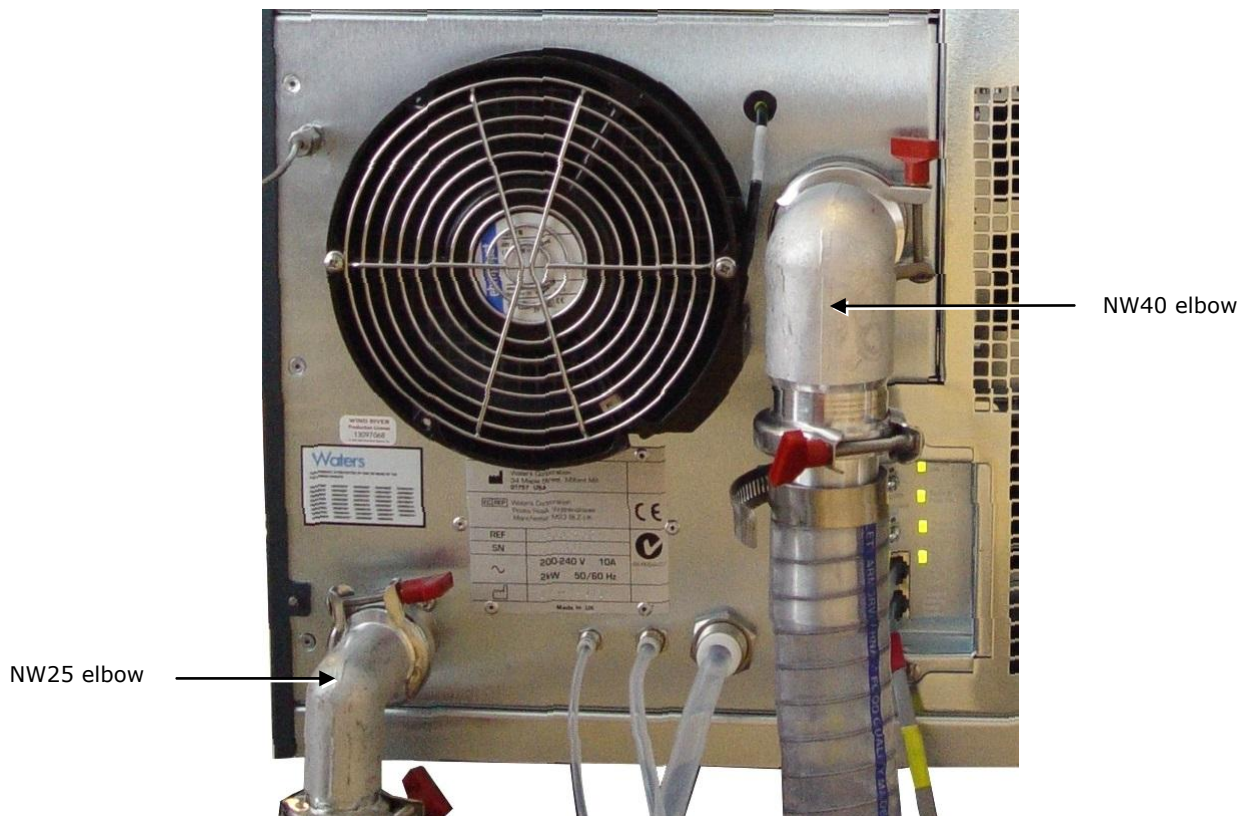

Figure 15 - Backing pump/vacuum hose configuration
8. Connect the pump control cable (4300038BC1, blue label) to the top pump control socket on the rear panel of the instrument (Figure 15).